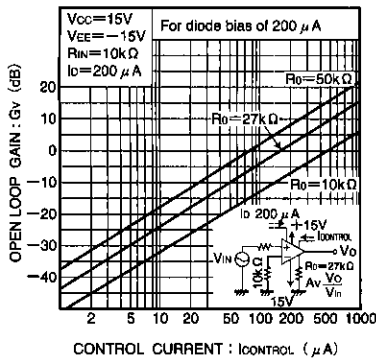

Fig.3 Open loop gain control current characteristic
This is the differential negative input pin. It is grounded with roughly the same resistance value as that of the positive input pin. The offset adjustment is also connected to this pin. Make sure a sufficiently high resistance is used, so as not to disturb the balance of the input resistance (see Figure 3).
(1) Figure 3 shows a voltage-controlled amplifier (AM modulation) as an example of an application of the BA6110.
The diode impedance $R_d = (26 / I_b \text{ (mA)}) \Omega$, so that the Pin 3 bias current $I_D = (V_{CC} - 1V) / \text{PIN 3}$. The graph in Figure 3 shows the control current in relation to the